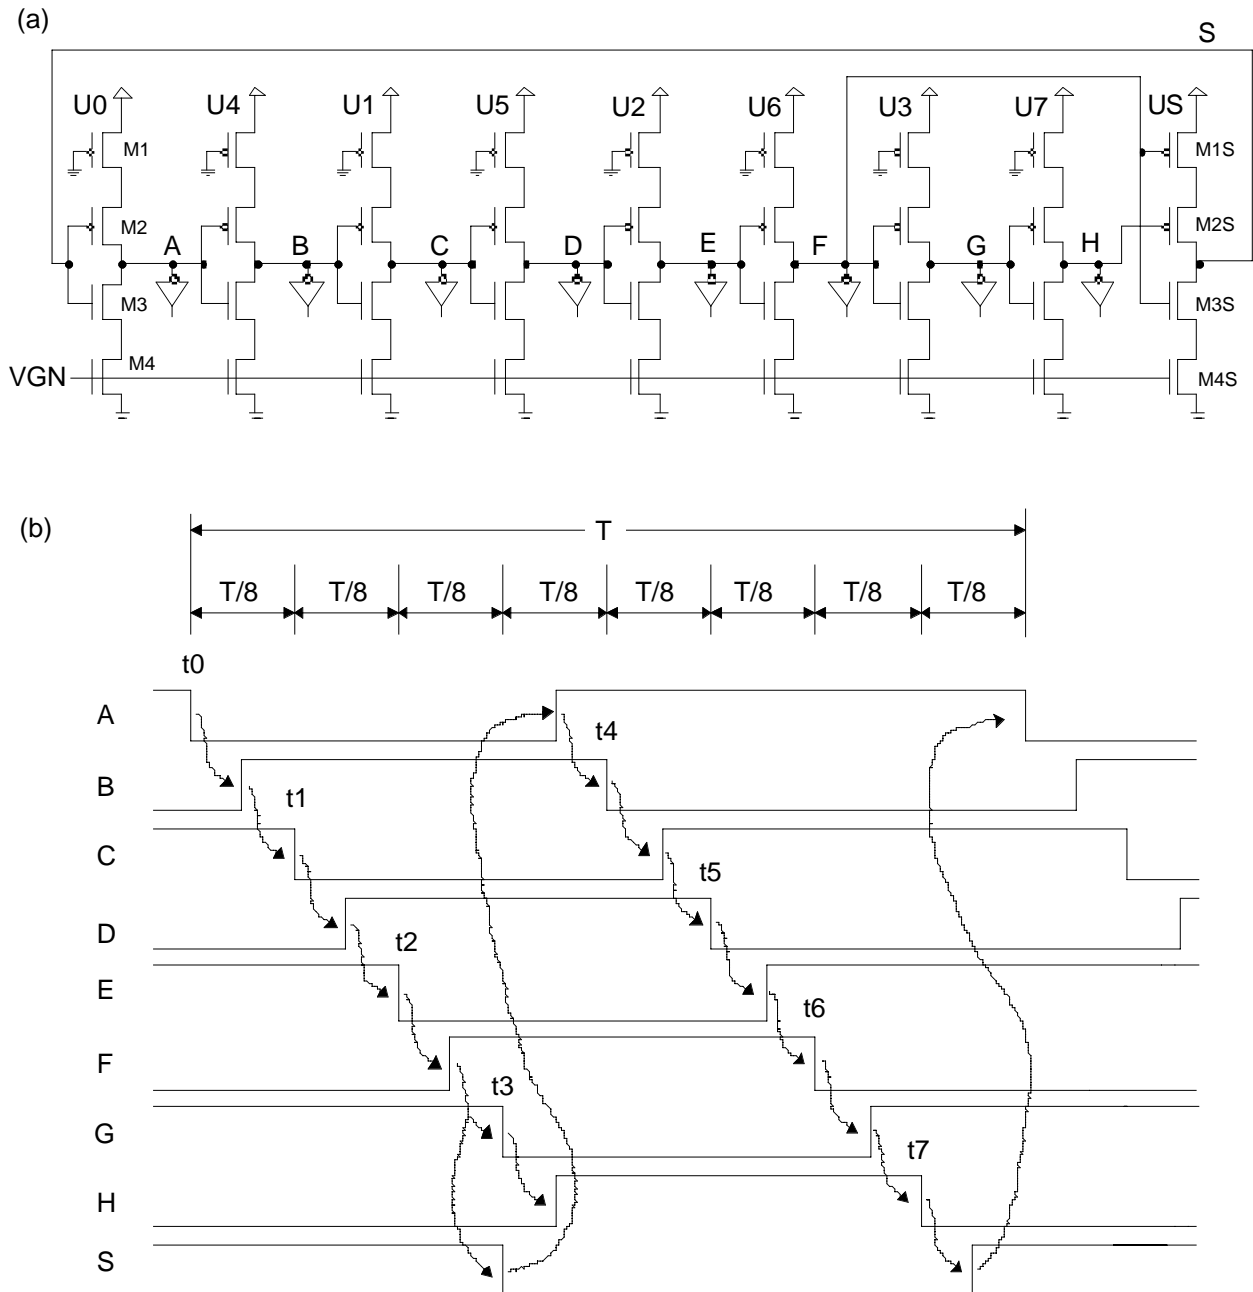

Fig. 2-1 (a) Asymmetric ring oscillator, (b) extracted timing signal.
A new ring oscillator, asymmetric ring oscillator, is implemented, and the oscillation frequency of the oscilltor is 80 MHz. To obtaine <1 ns timing resolution, 16 taps are extracted from the oscillator. Fig. 2-1 shows a simplified schematics and its timing diagram of the asymmetric ring oscillator. Fig. 2-1 only shows 8 stages but the actual chip implements 16 stages. The asymmetric ring oscilator was invented to get equally spaced even number (16) of timing signals.